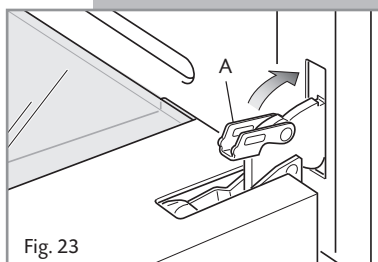

Fig. 23
- Unlock the oven door by opening it completely and closing the lever **A** on the left and right hinges (Fig. 23).